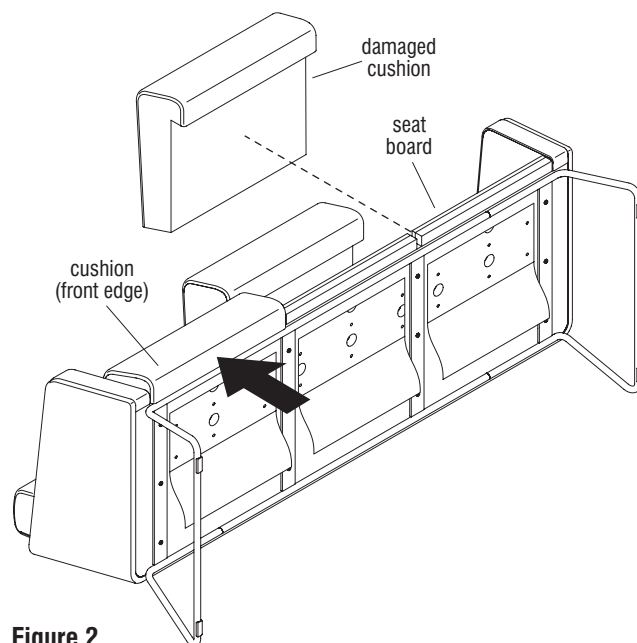

Figure 2
4. Push the bottom, front edge of the damaged cushion towards the top of the lounge unit to partially dislodge the cushion from the seat board as illustrated (Figure 2).